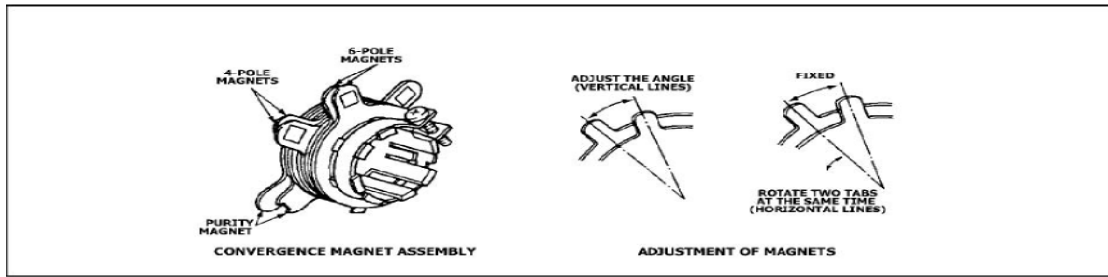

Fig. 2
5. Properly install the degaussing coil and picture tube grounding lead on the picture tube. See Figure 2.